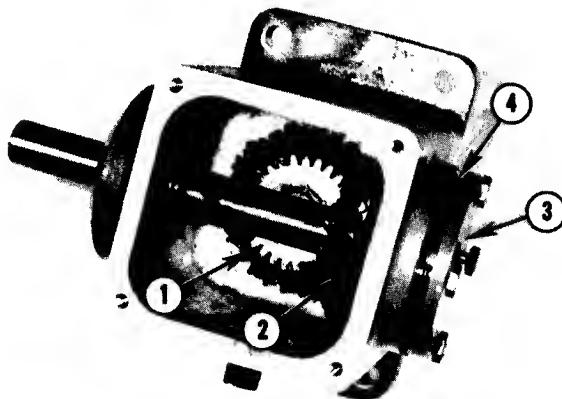

FIG. 10.17--ADJUSTING GEAR BACK-LASH
22. Install plate with shims then check gears back-lash. Back-lash in gear should be $.002''\text{--}.005''$. Add or remove shims to obtain correct gear back-lash, Fig. 10.17.